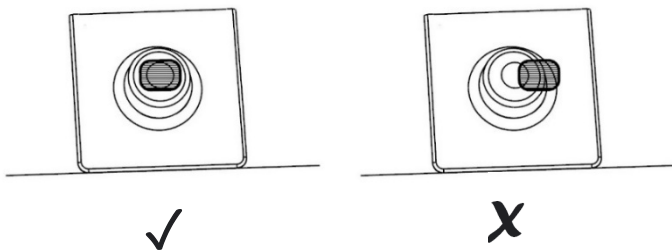

Fig 9
8. Align the holes in the hood deflector with the square holes on the temporarily placed adhesive pedestals to check the alignment of the holes. If an adjustment is required remove the protector and shift the adhesive pedestals using the tape strips and masking tape. Repeat this process until each hole aligns perfectly. (Fig 9)